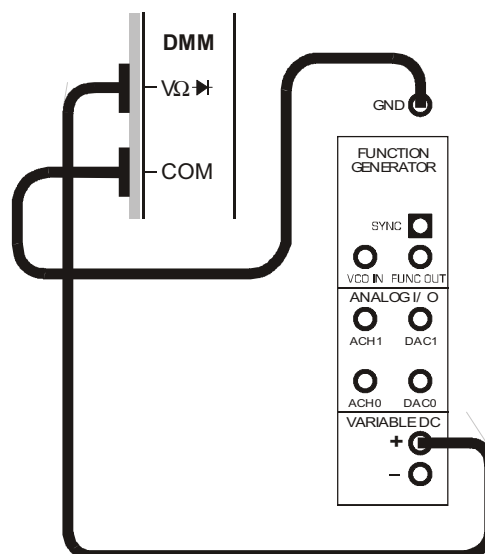

Figure 6
16. Connect the set-up shown in Figure 6 below.